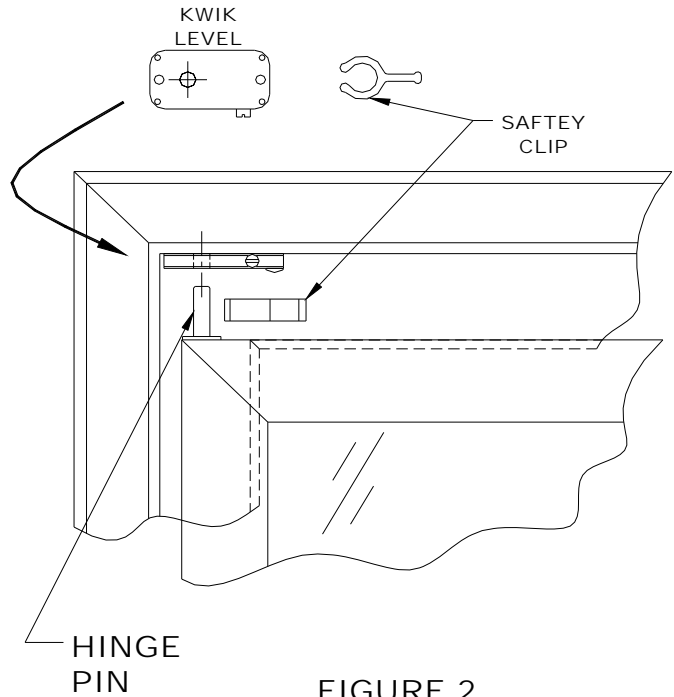

FIGURE 2.
- d) Press down on the spring loaded Hinge Pin, while moving the door back into the frame door opening until the Hinge Pin clicks in the top door hinge. (Figure 2)
- e) **Install black plastic Safety Clip in gap between top of door and Kwik Level on Hinge Pin. (Must be installed to prevent door from falling out of frame) (Figure 2)**